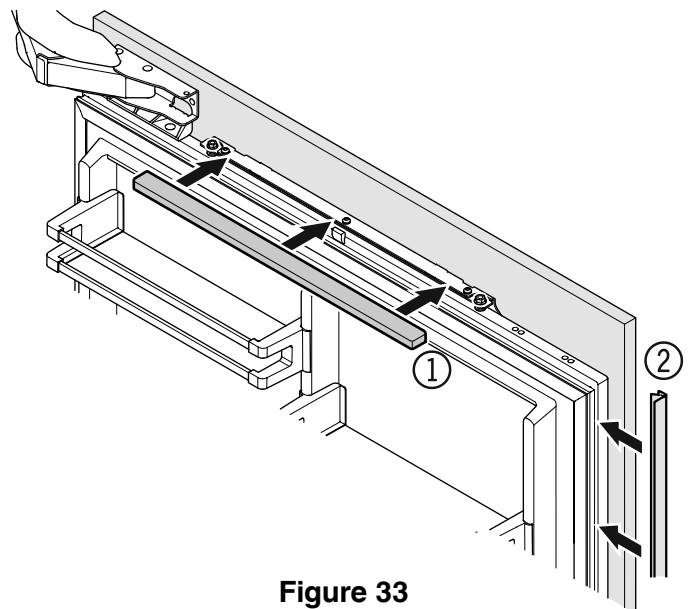

Figure 33
11. Click cover (1) into place.
Insert the cover strip provided (2) between refrigerator door and panel (Figure 33).